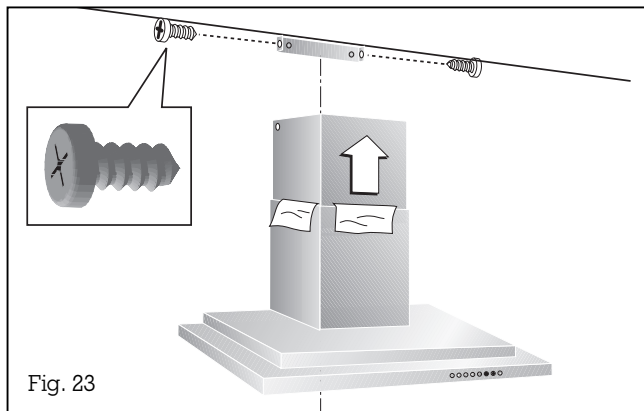

Fig. 23
- Pull the top chimney duct unit up into its final position and secure it with 2 screws on the ceiling holder (Fig. 23).